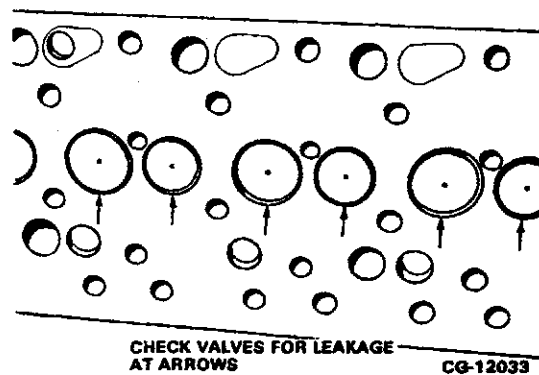

Figure 4.15. Inspect Valves for Leakage
- c. Wait five minutes. Using an inspection mirror, visually inspect the valve seat area for leakage of the mineral spirits. Refer to Figure 4.15. Repeat and check all intake and exhaust valves.